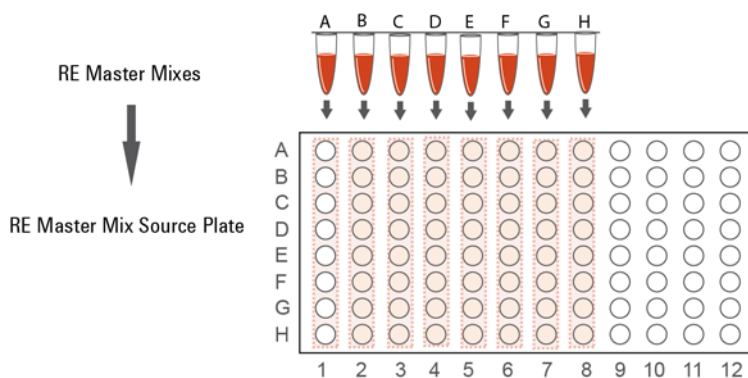

Figure 3 Preparation of the RE Master Mix source plate for automation protocol Digestion_v1.0.pro.
- 1 Aliquot the Restriction Enzyme Master Mixes to a full-skirted 96-well Eppendorf twin.tec plate as shown in Figure 3. Add the volumes indicated in Table 11 of each master mix A–H to each well of the indicated column of the twin.tec plate. Keep the master mixes on ice during the aliquoting steps.